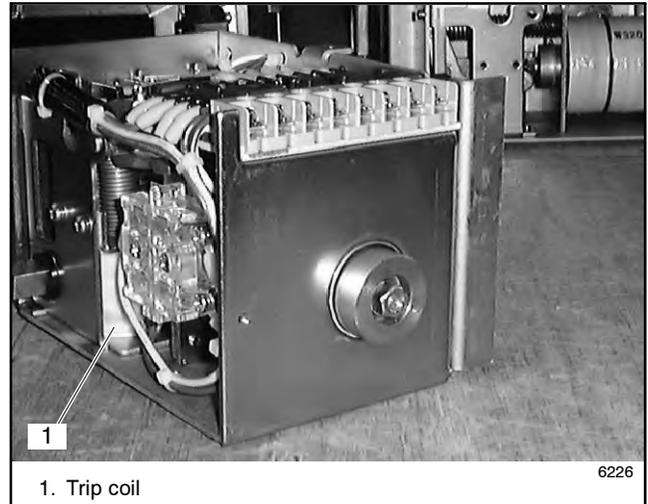

Figure 7-21 Trip Coil Location
- Locate the trip coil. See Figure 7-21.